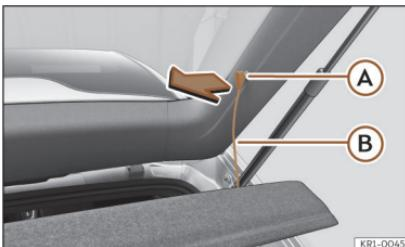

Fig. 165 In the boot: removing and installing the shelf.
- Detach the cord loops >>> **Fig. 165 B** from their hooks **A**.
- Attach the securing straps >>> **Fig. 165 B** onto the rear lid.